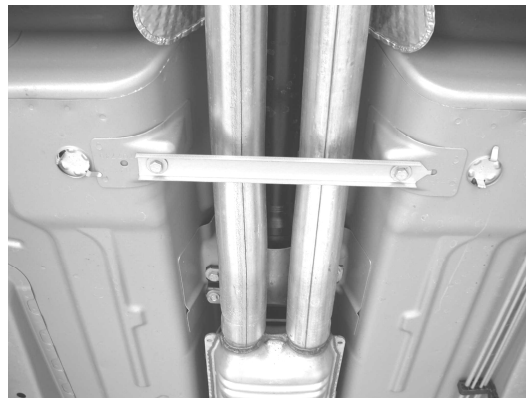

Figure 2
2. Unbolt and remove the center support bracket shown in figure 2. Place the hardware to the side for use during the installation of your new exhaust system.